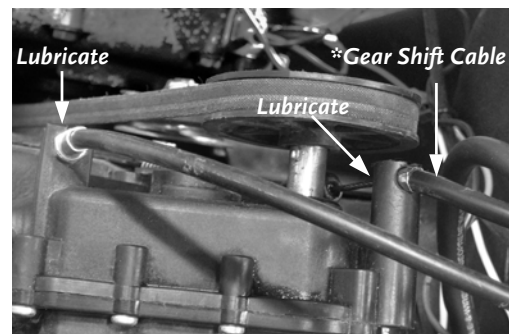
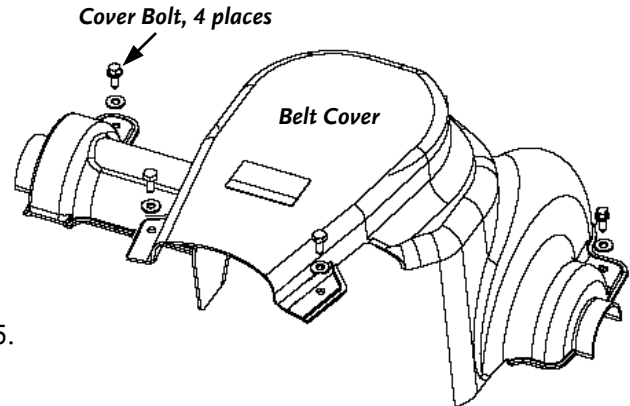

Figure 19
Figure 21
2. Perform this lubrication at both ends of the cables. The \*Drive Clutch Cable and \*Gear Shift Cable are shown in **Figure 19**. Remove the \*Drive Belt Cover (**Figure 21** on page 37) using a 7/16" Socket with a 6" Extension to remove the four (4) 1/4" Cover Bolts.
2. Remove the Belt Cover using a 7/16" Socket with a 6" Extension to remove the four (4) 1/4" Cover Bolts (**Figure 21**).
1. Remove the Belt Cover using a 7/16" Socket with a 6" Extension to remove the four (4) 1/4" Cover Bolts (**Figure 21** on page 37).
2. Remove the Belt Cover using a 7/16" Socket with a 6" Extension to remove the four (4) 1/4" Cover Bolts (**Figure 21** on page 37).